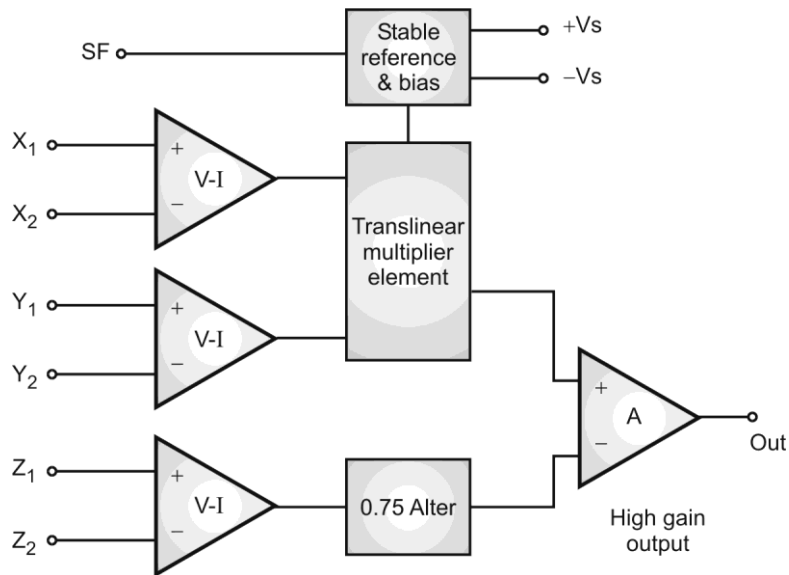

Fig. 5.6.5 : Functional block diagram of the IC 534
- Fig. 5.6.5 is a functional block diagram of the AD 534.